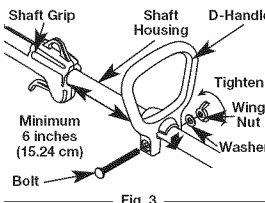

Fig. 3
- Push the D-handle down onto the shaft housing (Fig. 3). The hex bolt hole in the handle should be on the left side.